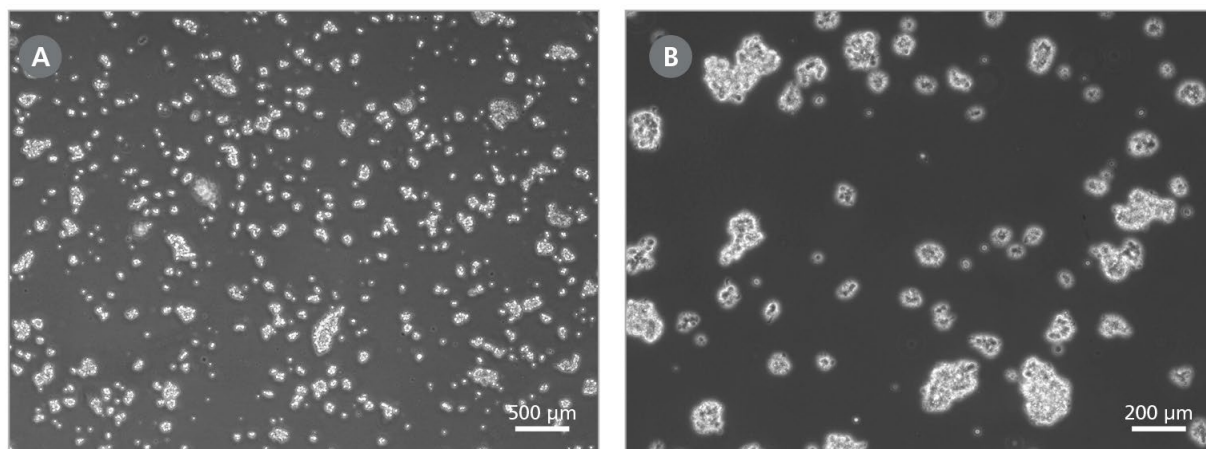

Figure 3. Aggregate Size of hPSCs Following Passaging With ReLeSR™
Note: Optimal dissociation time may vary depending on the cell line used; when passaging a cell line with ReLeSR™ for the first time, the optimal dissociation time should be determined (see Figure 3 and section 8.0). For more information, refer to the product information sheet (PIS) of the respective cell line.
8. Using a 5 mL serological pipette, transfer the detached cell aggregates to a 15 mL conical tube. Cell aggregates should be appropriately sized for plating (mean aggregate size of approximately 50 - 200 µm; see Figure 3).